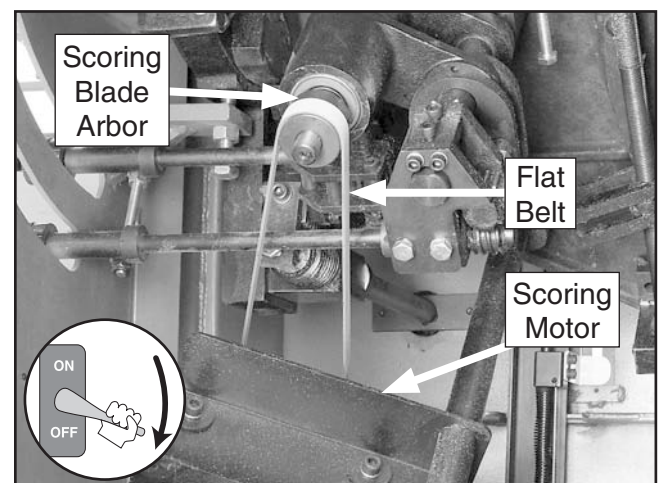

Figure 125. Replacing the scoring motor belt.
5. Place the flat belt on the scoring blade arbor as shown in **Figure 125**, lift the scoring motor, and slide the flat belt over the scoring motor pulley.